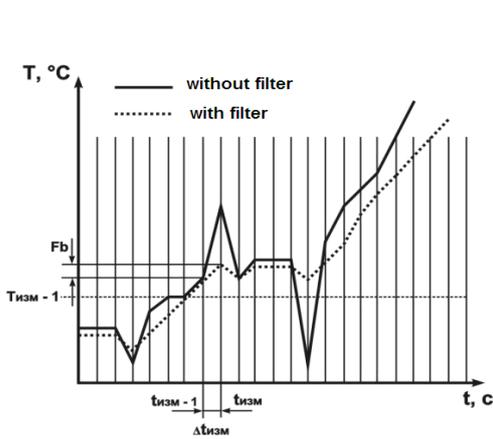

Figure 3.5
3.2.4.1 The digital filter band allows protecting the measurement route from single interference and is set in °C. If the measured value  $T_{изм}$  is different from the previous  $T_{изм-1}$  by the value larger than  $F_b$  parameter value, the device assigns to it a value equal to  $(T_{изм} + F_b)$  (Figure 3.5). Thus the characteristic is smoothed out.
As seen in Figure 3.5, smaller band width of the filter leads to slowing down the device reaction to temperature change. That is why in case of low interference level or during operation with discontinuous temperatures it is recommended to increase the parameter value or switch off the filter band action by setting the  $F_b 1$  ( $F_b 2, F_b 3, F_b 4$ ) parameter value to 0.